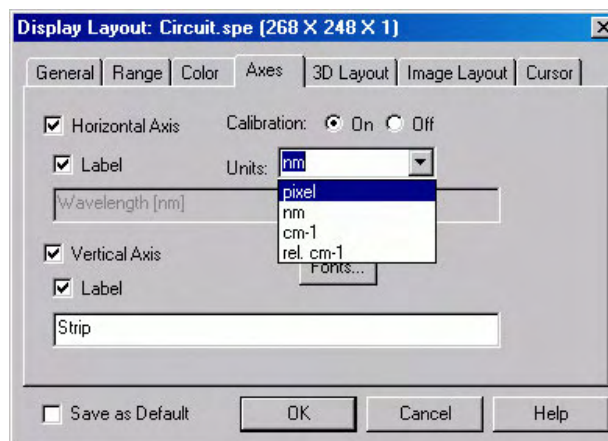

Figure 76. Axes tab page
- Open the Display Layout dialog box and open the Axes tab page (Figure 76). Note that Horizontal Axis, Vertical Axis, and the Label box for each are all checked (If unchecked, the corresponding axis or label would not be displayed.)